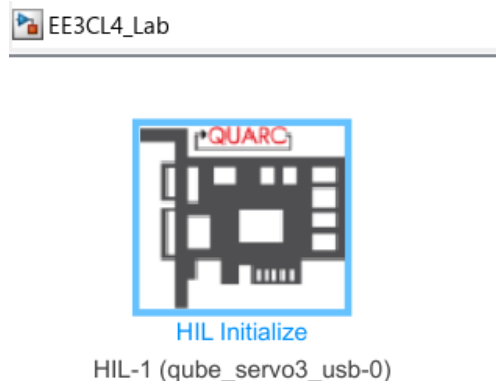

Figure 7: A view of the initial Simulink model file.
2. Rename the above-mentioned file and open it from within MATLAB. There is only one block in the Simulink file shown in Figure 7, namely the *HIL Initialize* or *initialization* block. The purpose of this block is to initialize the Simulink environment so that it can correctly interface with the Qube-Servo 3 DC motor. It is executed automatically once you run the Simulink application.